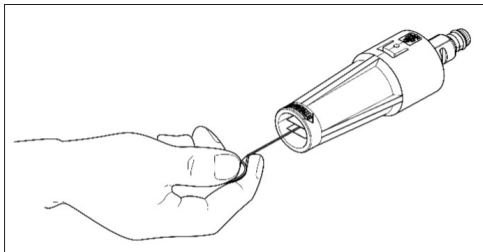

Fig.16
- Clean the nozzle with the needle clean-out tool provided (Fig.16).